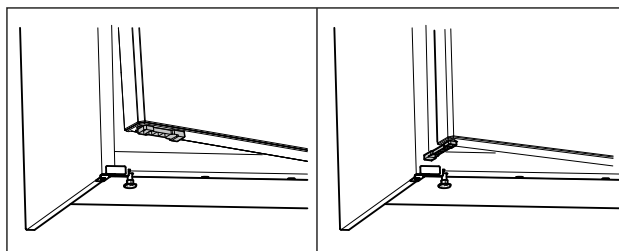

Fig. 72 *
- ▶ Turn door opening limiter by 90°. (see Fig. 72) *